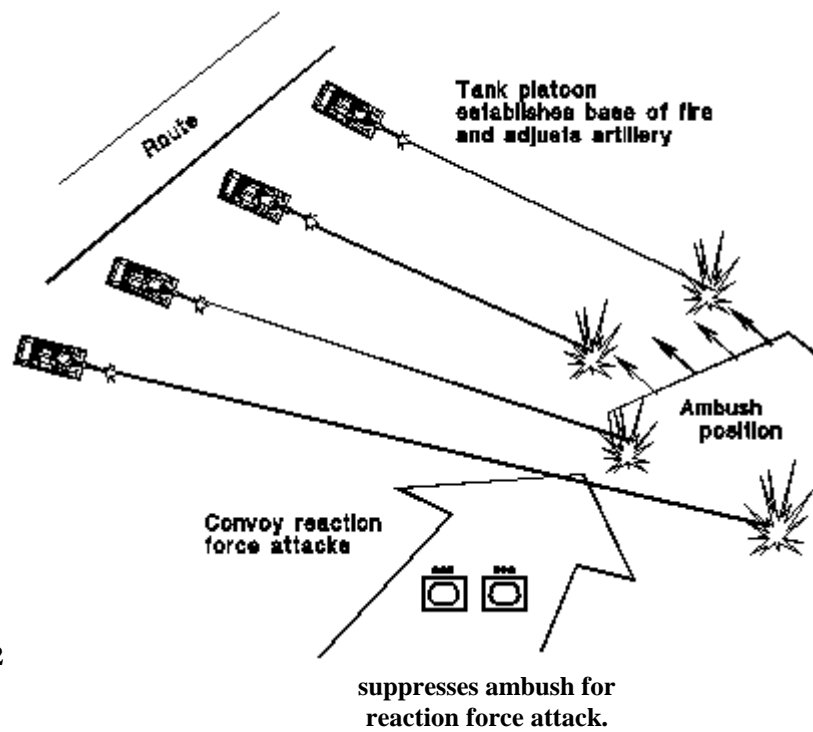

Figure 5-9A. Escort
- Continue to suppress the enemy as combat reaction forces move to support (see Figure 5-9A).